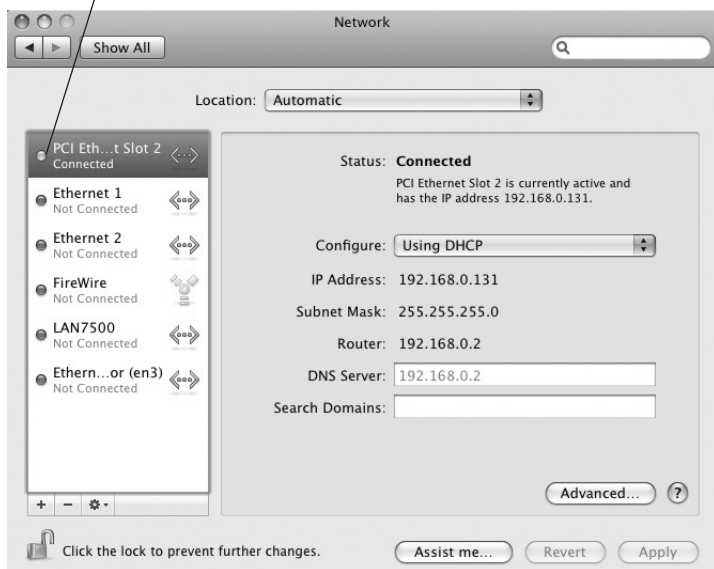

Figure 2
3. If the driver is successfully installed, the bullet before **PCI Ethernet...** should be green, see **Figure 2**.